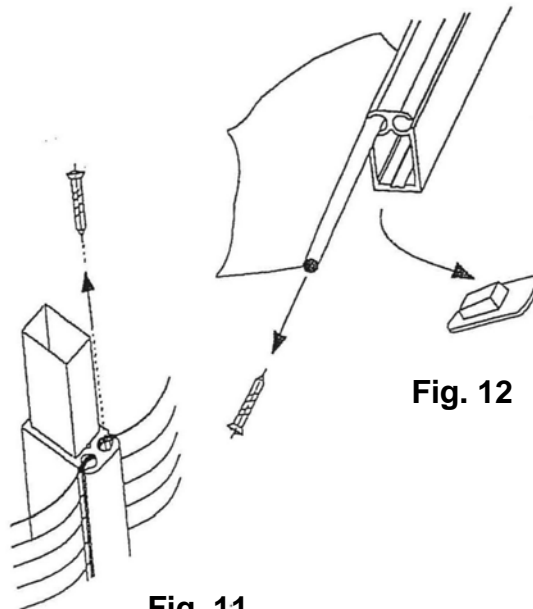

Fig. 11
- Unscrew the upper welt screw (Fig. 11).